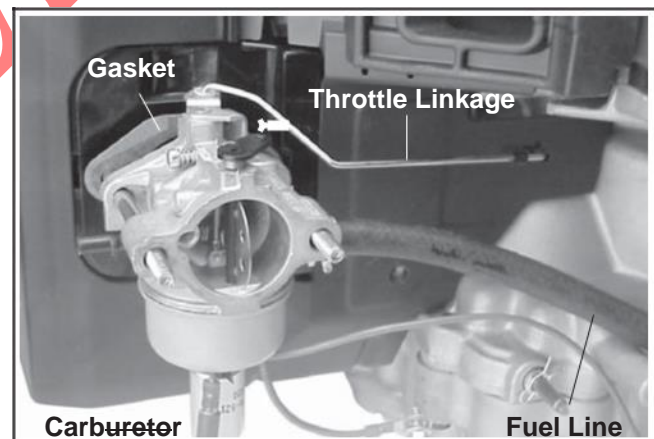

Figure 11-62. Installing Gasket, Carburetor and Fuel Line.
3. Install the gasket and carburetor onto the intake studs. Install the free end of the rubber fuel line to the carburetor inlet fitting. Secure the fuel line with the other hose clamp. See Figure 11-62.